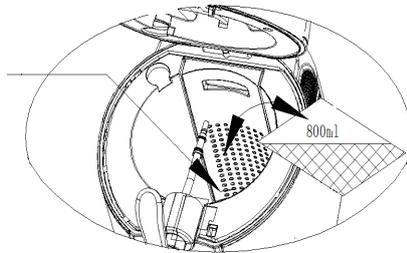

Figure 8
- Put 800ml water into the cooling cavity or pour the water to the max mark (Show as figure 8) (It can work without water, but it can't display the best performance).